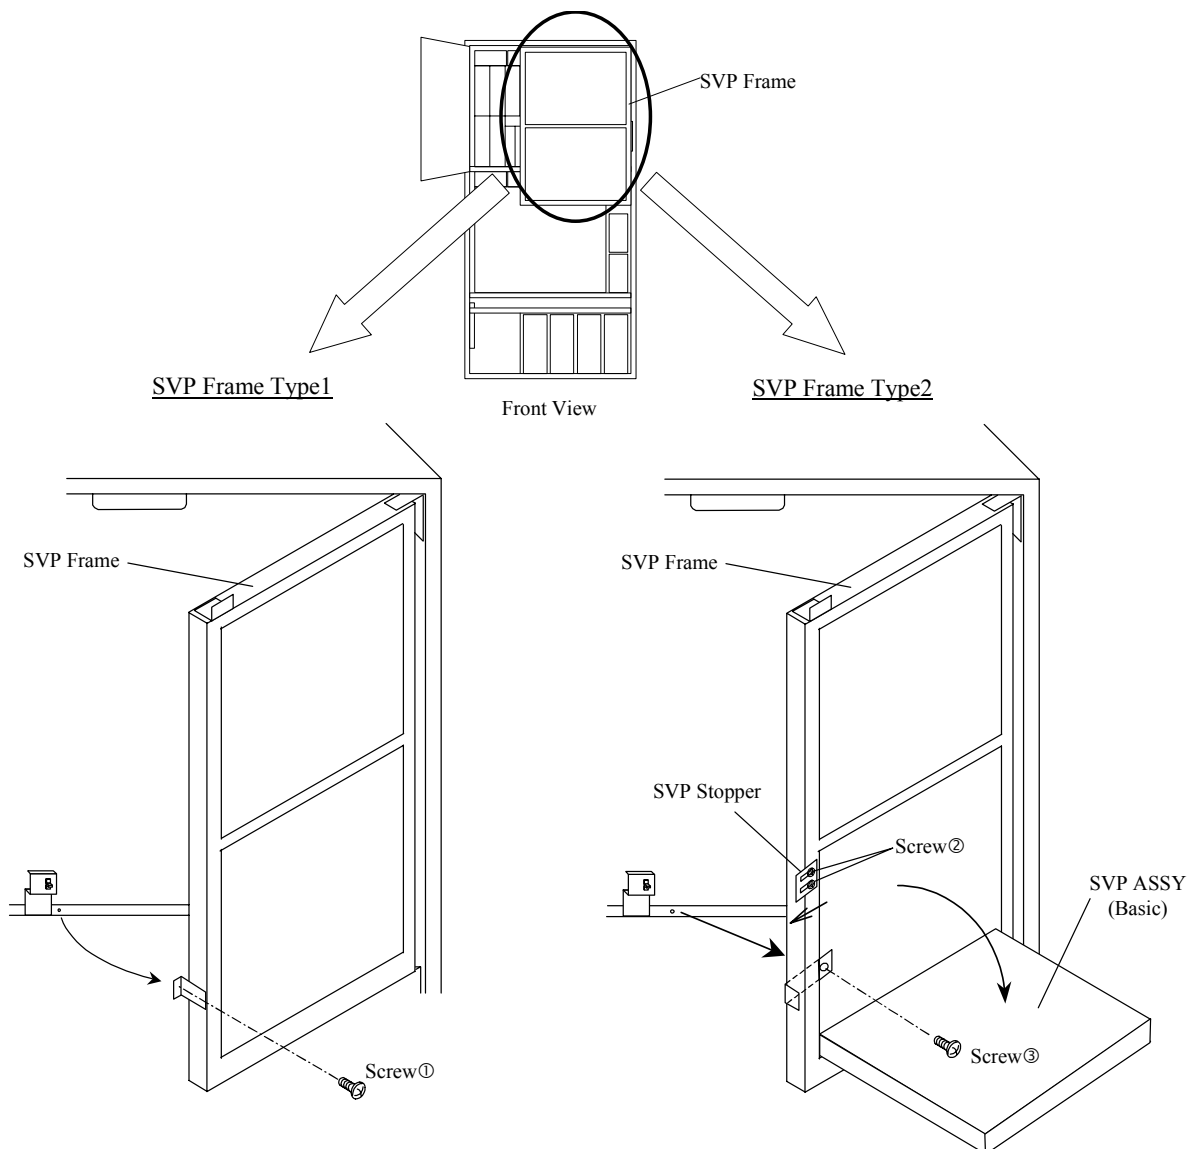

Fig. T7.1-1 Open the SVP Frame
3. Loosen the screw and open the SVP frame. (See Fig. T7.1-1 [REP03-460].)